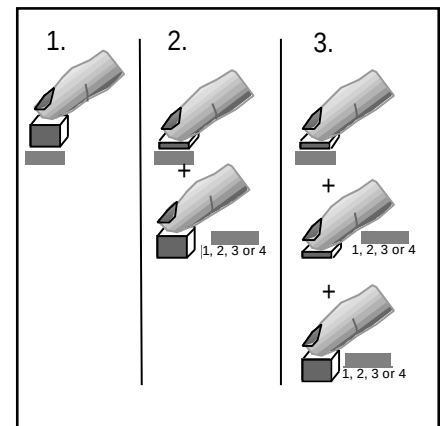

Fig. 8
4.5 Footswitch functions (Fig. 8)